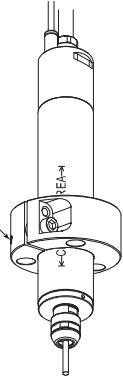

Fig. 14
- When installing the Motor Spindle, it is recommended to use a "GR - 30 Grip Ring (sold separately (Fig. 14))". If the GR - 30 Grip Ring cannot be used due to the restriction of dimension and space, install as shown in ② below.